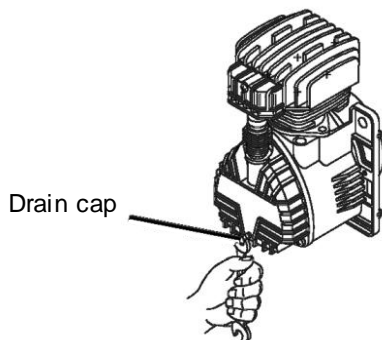

Fig. 13
- (1) Within the first 50 hours of operation, completely replace the oil of the pumping element. Unfasten the oil drain cap on the casing cover, drain all the oil, and screw the cap back on (Refer to Fig.1 and to Fig.13).